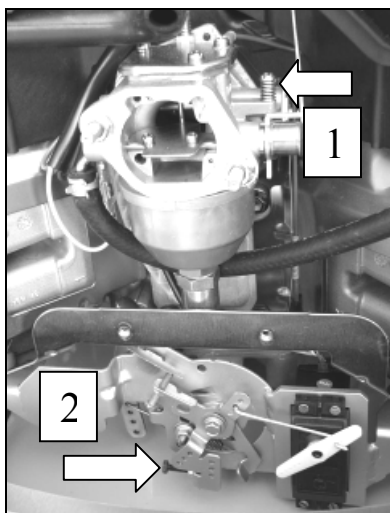
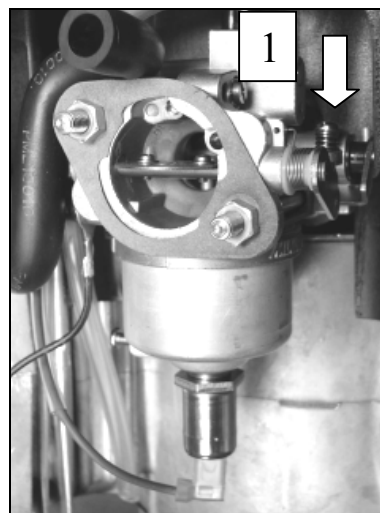

Fig. 110 - Kohler
Fig. 111 - Kawasaki
- Adjustment of idling revs – screw 1 (Fig. 110 –Kohler motor, Fig. 111 –Kawasaki motor)